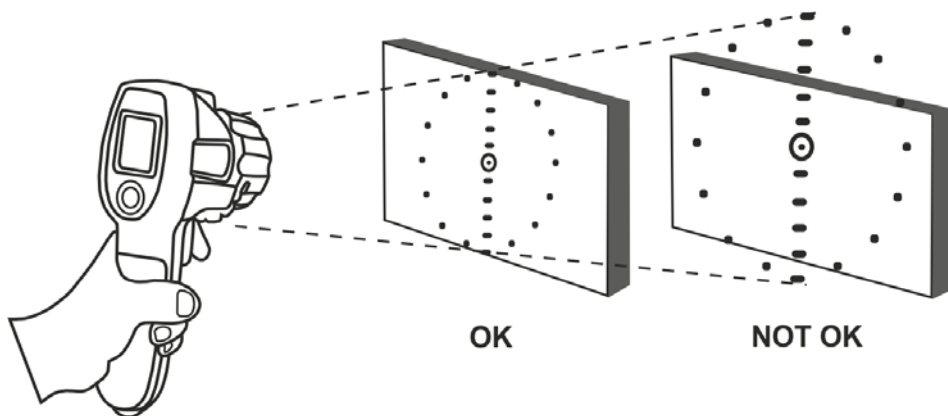

Fig. 17: Correct measuring conditions
6. Make sure that the target whose temperature is to be measured is at least as large as the unit's spot (see Fig. 17). The smaller the object is, the closer you should be to it. **When accuracy is critical, make sure the object is at least twice as large as the spot size.** To find a "Hot Spot", aim the thermometer at the measured object, then move the instrument across the object until a hot spot is located.